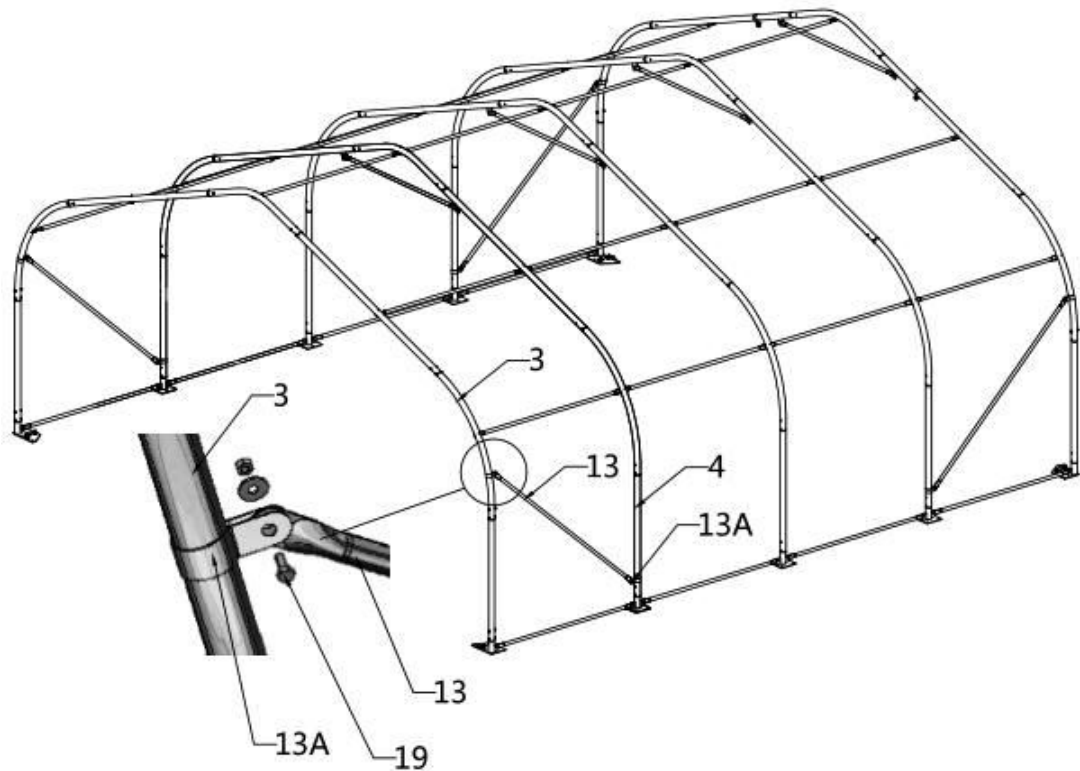

Figure 8
- Connect diagonal bracing bar (#13) on the first and last span between the shoulder tube and lower rafter tube (#3 and #4) with tube clamp (#13A), use bolt (#19) (refer to figure 8).
- (4) Diagonal bracing bar (#13)
- (8) Tube clamp (#13A)